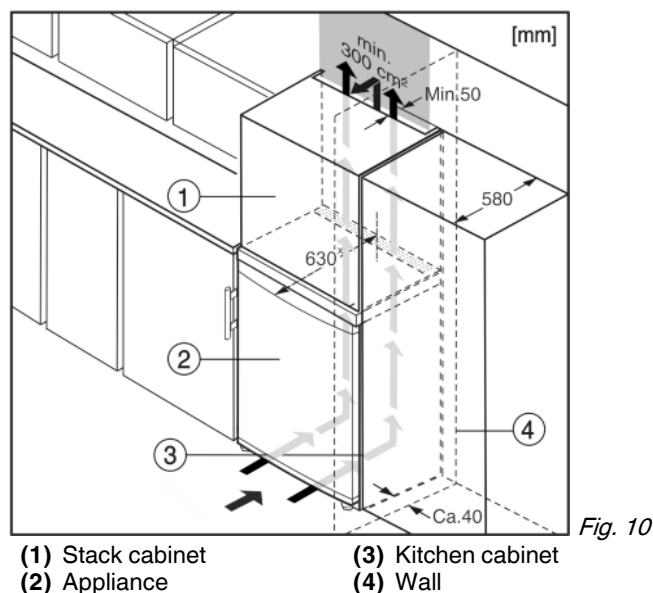

Fig. 10
The appliance can be inserted into a row of kitchen units. To match the appliance Fig. 10 (2) to the height of the row of units, a suitable stack cabinet Fig. 10 (1) can be fitted above the appliance.
When installing with kitchen units (max. depth 580 mm), the appliance can be positioned directly next to the kitchen cabinet Fig. 10 (3). The appliance will project by 34 mm\* at the sides and 50 mm\* in the centre of the appliance in relation to the kitchen cabinet front.
If the appliance is installed with the hinges next to a wall Fig. 10 (4), the distance between appliance and wall has to be at least 40 mm. This corresponds to the projection of the handle when the door is open.